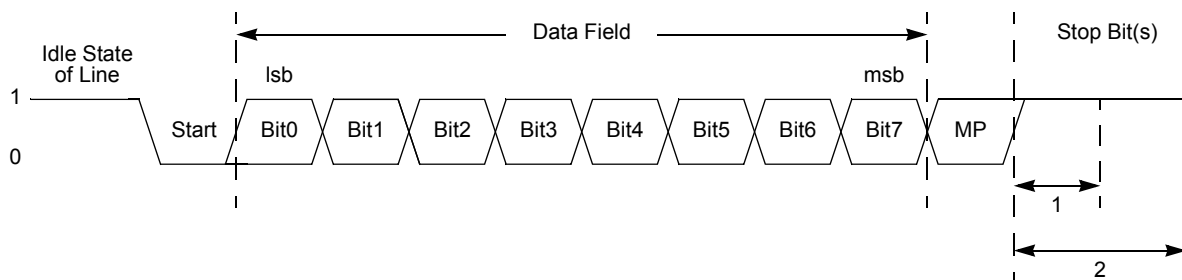

Figure 13. UART Asynchronous MULTIPROCESSOR Mode Data Format
The UART has a MULTIPROCESSOR (9-bit) Mode that uses an extra (9th) bit for selective communication when a number of processors share a common UART bus. In MULTIPROCESSOR Mode (also referred to as 9-bit Mode), the multiprocessor bit (MP) is transmitted immediately following the 8-bits of data and immediately preceding the Stop bit(s) as displayed in Figure 13. The character format is given below: